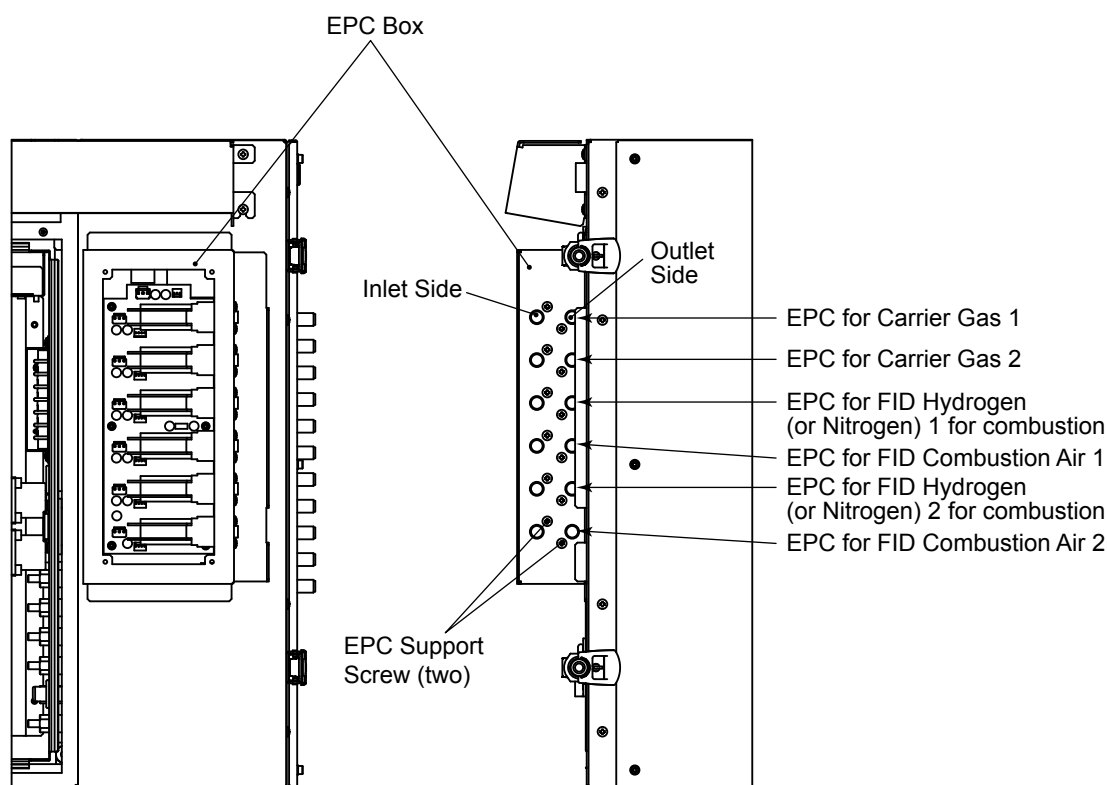

Figure 6.18
- (1) Stop the operation. (See “3.3.4 Stopping operation” for this procedure).
- (2) Stop the supply of power.
- (3) Turn off the supplies of the carrier gas, utility gases (FID hydrogen gas (or nitrogen) for combustion, FID combustion air) and supply of samples.
- (4) Open the door for the isothermal oven of the oven unit.
- (5) Loosen the four screws on the EPC container cover (front right side of the isothermal oven) using a hexagon wrench and remove the cover.
- (6) Remove the couplings to the inlet (IN) and outlet (OUT) of the EPC (see Figure 6.18).
- (3) Turn off the supplies of the FID hydrogen (or nitrogen) gas for combustion, FID combustion air, and carrier gas.
- (4) Open the door of the isothermal oven section in the oven unit as well as the door above it.
- (5) Remove the front panel of the regulator by loosening the two screws.
- (6) Remove the couplings connected to the inlet (IN) and outlet (OUT) of the regulator. See Figure 6.18. Label the couplings with “IN” and “OUT” for ease of identification later.